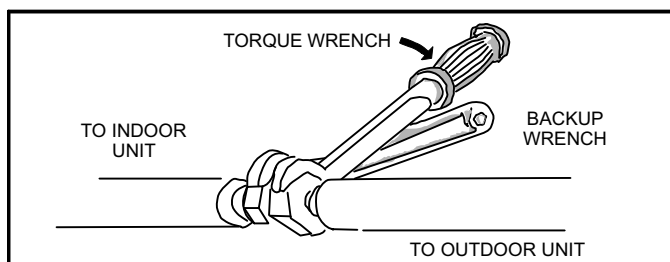

Figure 7. Tighten Flare Nut
- 7 - Once snug, continue another half-turn on each nut which should create a leak-free joint. A torque wrench may be used to tighten flare nuts using table 2 recommendations. (see figure 7). **Do not over-tighten a flared joint.**